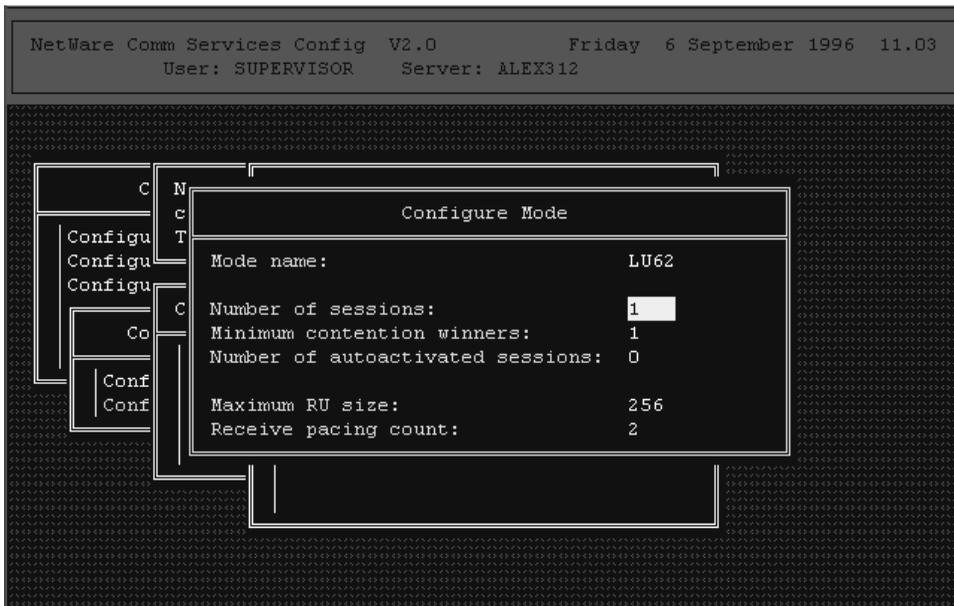

Figure 24. Configuring Modes
- 6 For each partner LU, create a mode named LU62, specifying exactly the values shown in Figure 24.